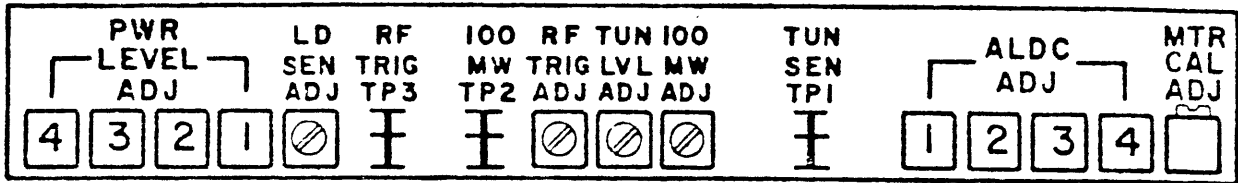

Figure 5-2
5-6. ALDC ADJUSTMENT PROCEDURE (Refer to figure 5-2 for control location)
5-9. AUTO TUNING ADJUSTMENT PROCEDURE (Refer to figure 5-2 and 5-4)
(1) Connect transmitter to dummy load.
(2) Energize transmitter (MAIN POWER, SCREEN AND PLATE BREAKERS to ON). H.V. switch pressed to ON.
(3) Place MANUAL/AUTO switch to MANUAL. POWER LEVEL switch to position 4. Turn LOAD SENSE adjust fully clockwise (LOAD SENSE ADJ located in servo control drawer).
(4) At 12 MHz operate TUNE and LOAD control to produce the maximum PA OUTPUT with the least amount of PA Plate Current.
(5) Increase RF DRIVE until PA OUTPUT meter indicates rated output. (Note setting of LOAD capacitor)
(6) Reduce PA OUTPUT until PLATE current meter indicates 300-350ma.
(7) Slide AX5130 unit out on its chassis slides to expose LOAD SENSE adjustment control. (Refer to figure 5-2 for control location.) Adjust LOAD SENSE control until voltage on A205 TP-1 and TP-2 are equal.
(8) Place MANUAL/AUTO switch in AUTO press TUNE button twice.